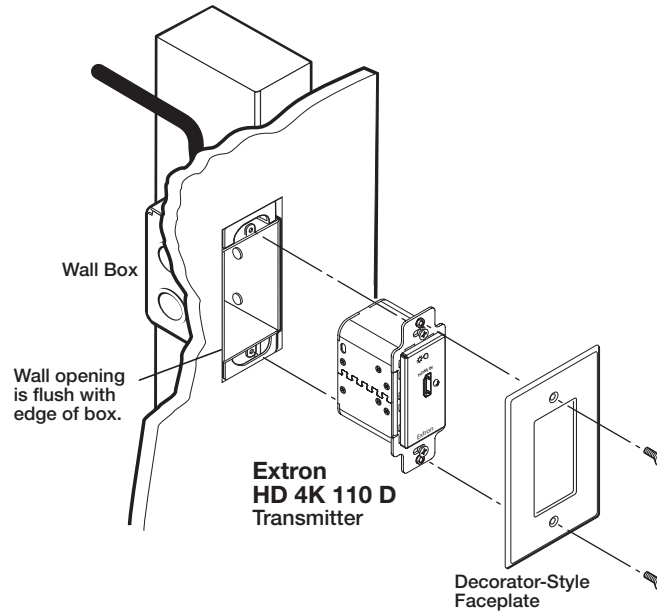

Figure 6. Mounting the HD 4K 110 D to a Wall Box
3. Attach the HD 4K 110 D to the wall box or mud ring using machine screws as shown in figure 6. Be careful not to damage cables behind the HD 4K 110 D.
4. Attach the decorator-style wallplate to the HD 4K 110 D as shown in figure 6.